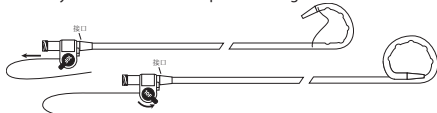

Figure 3
- To engage the suture locking mechanism: Pull the suture until desired pigtail is formed. Rotate the suture locking mechanism distally to hold the suture in place. See Figure 3.